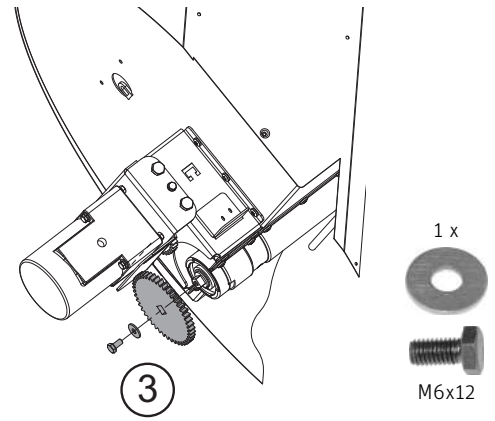

Fig. 51 Mount the gear
- ▶ Screw the gear to the auger at the bottom of the integral fuel hopper with M6x12 bolts and a U-washer – Fig. 51.